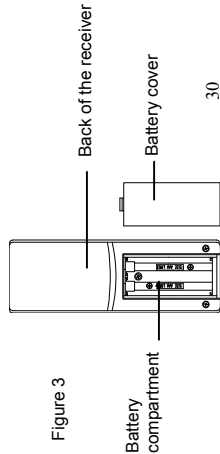

Figure 3
1. Slide the battery cover downwards and remove. (Figure 3)